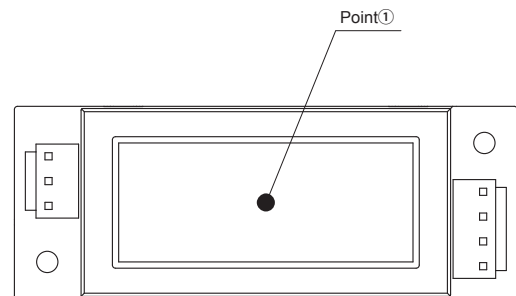

Fig.6.4 Temperature measurement point (-N model)
- Please refer to Fig 6.4 for the position of Point①.